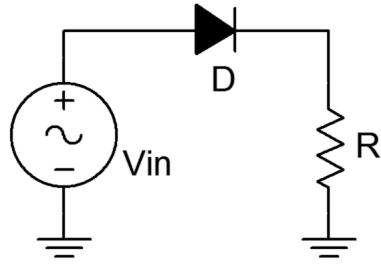

Figure 1
1. Consider the circuit of Figure 1. For an input voltage significantly larger than 0.7 volts, the diode will be forward biased for the positive half of the input sine wave. Therefore, all of the input signal (less 0.7 volts) will appear across the load resistor, R. Conversely, during the negative polarity of the input, the diode will be open, thus blocking any current and producing no voltage across the load.
2. Build the circuit of Figure 1 using $V_{in} = 10$ volts peak at 1 kHz and $R = 10 \text{ k}\Omega$. Set the oscilloscope inputs to DC coupled. Place one oscilloscope probe across the input generator and a second probe across the load resistor. Record the peak amplitude of the output load waveform in Table 1. Also, save an image of the scope trace showing both the input and output waveforms.